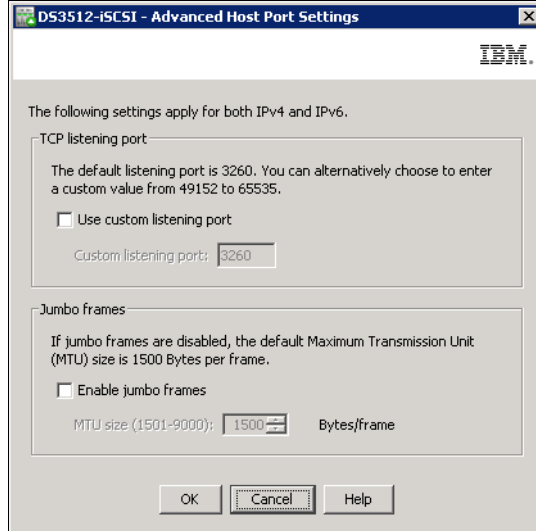

Figure 13-11 Advanced iSCSI Host Port Settings
6. After configuring IPv4 and /or IPv6, you can select **Advanced Host Port Settings** as shown in Figure 13-11. These settings apply to both the IPv4 and IPv6 settings. The TCP listening port for iSCSI and jumbo frame support can be configured here. To use a TCP port other than the default (3260), select the **Use custom listening port** check box and specify the port. A custom port can be between port 49152 and 65535.